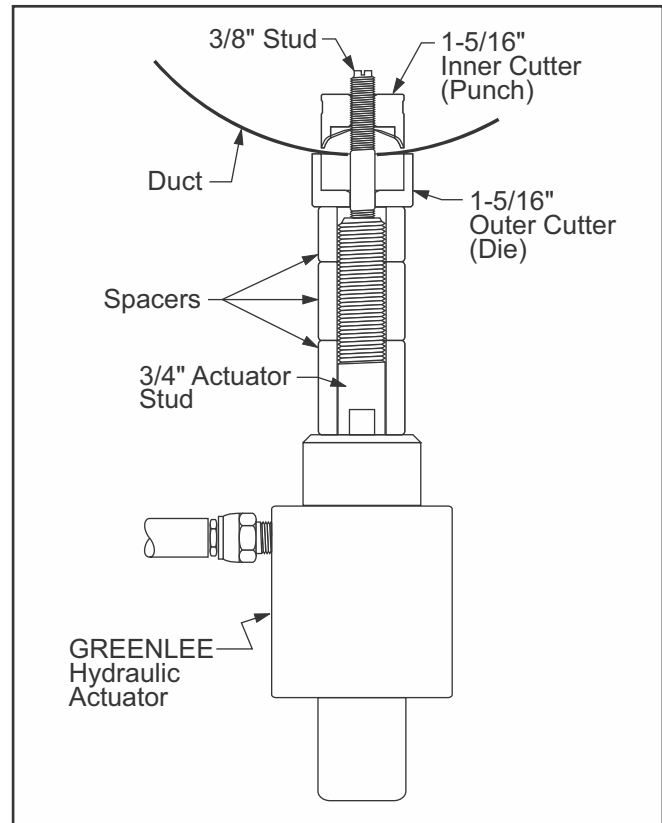

Fig. 35: 1-5/16" Hydraulic Punch Configuration
4. Install Nipple: Remove backing and apply die-cut Gortex[®] gasket to the inside flange of the test port. Place the 1"Ø test port in the swaged hole from inside the duct. Thread the matching jam nut onto the test port and tighten until snug. Using the appropriate size wrench on the jam nut and the flats on the test port, tighten the jam nut until there is resistance to further tightening. Installation is complete. (Fig. 35)